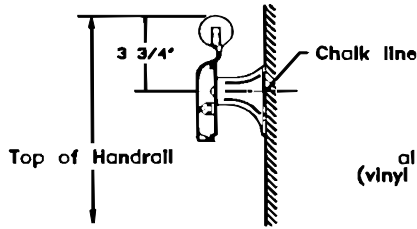

Fig 1
- Step 1:** Determine top of handrail height and snap a chalk line 3-3/4" below for centerline of mounting hardware, see **fig. 1** (see CAD details on back for all figure references)